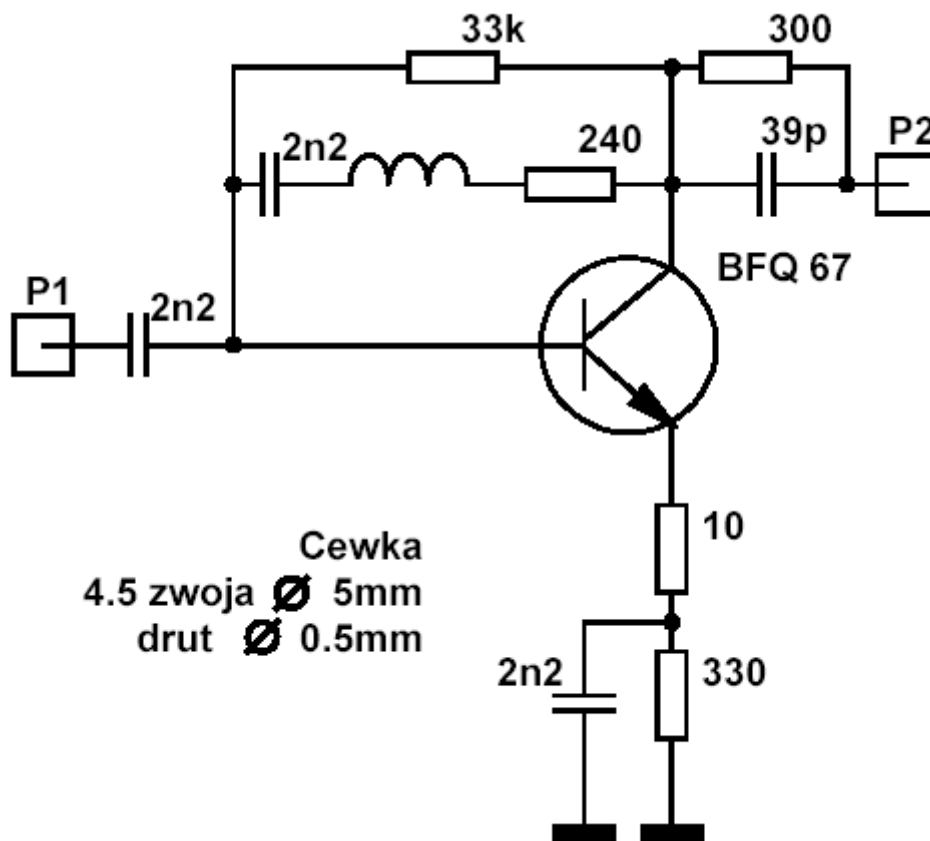

Fig. 2 High frequency amplifier circuit
8. Solder the high frequency amplifier given in fig. 2 on the board given by the teacher. Make the coil by yourself using the silver wire. Follow the instructions given by the teacher.